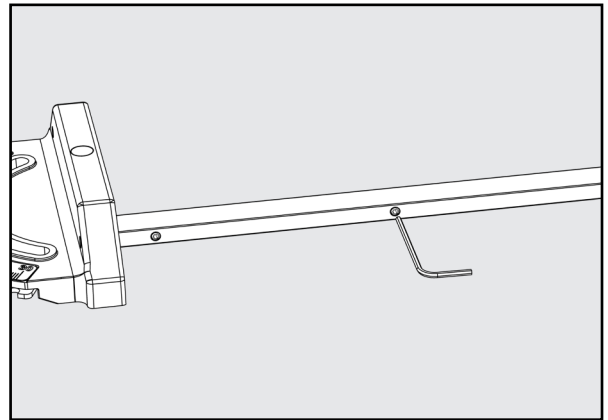

Figure 32
1. Use a 3/32 inch Allen wrench on any of the three set screws located on the side of the bar. See Figure 32 and 33.